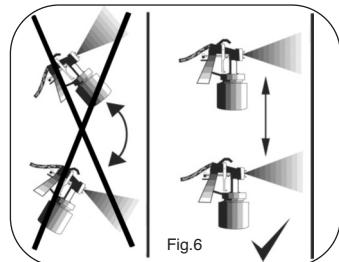

Fig.6
3. Do not tip the spray gun to more than 45° angle (Fig.6).